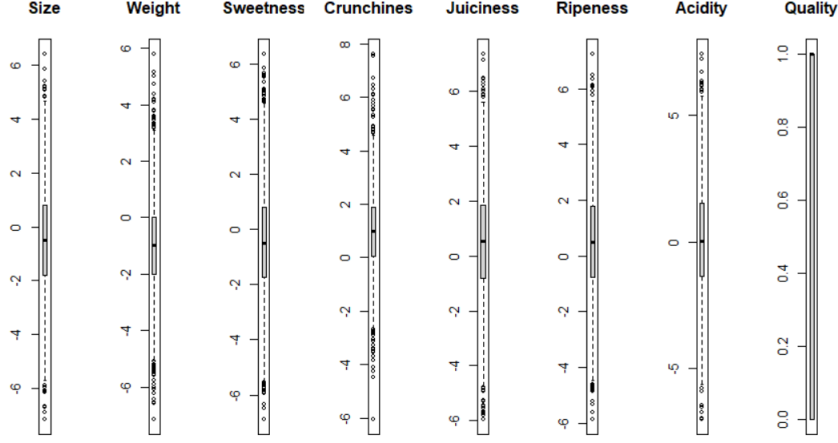

Figure 3: Box plot for outliers
- **Outliers:** Used box plots(in Figure 3) to find the outliers and removed outliers using Z\_Scores